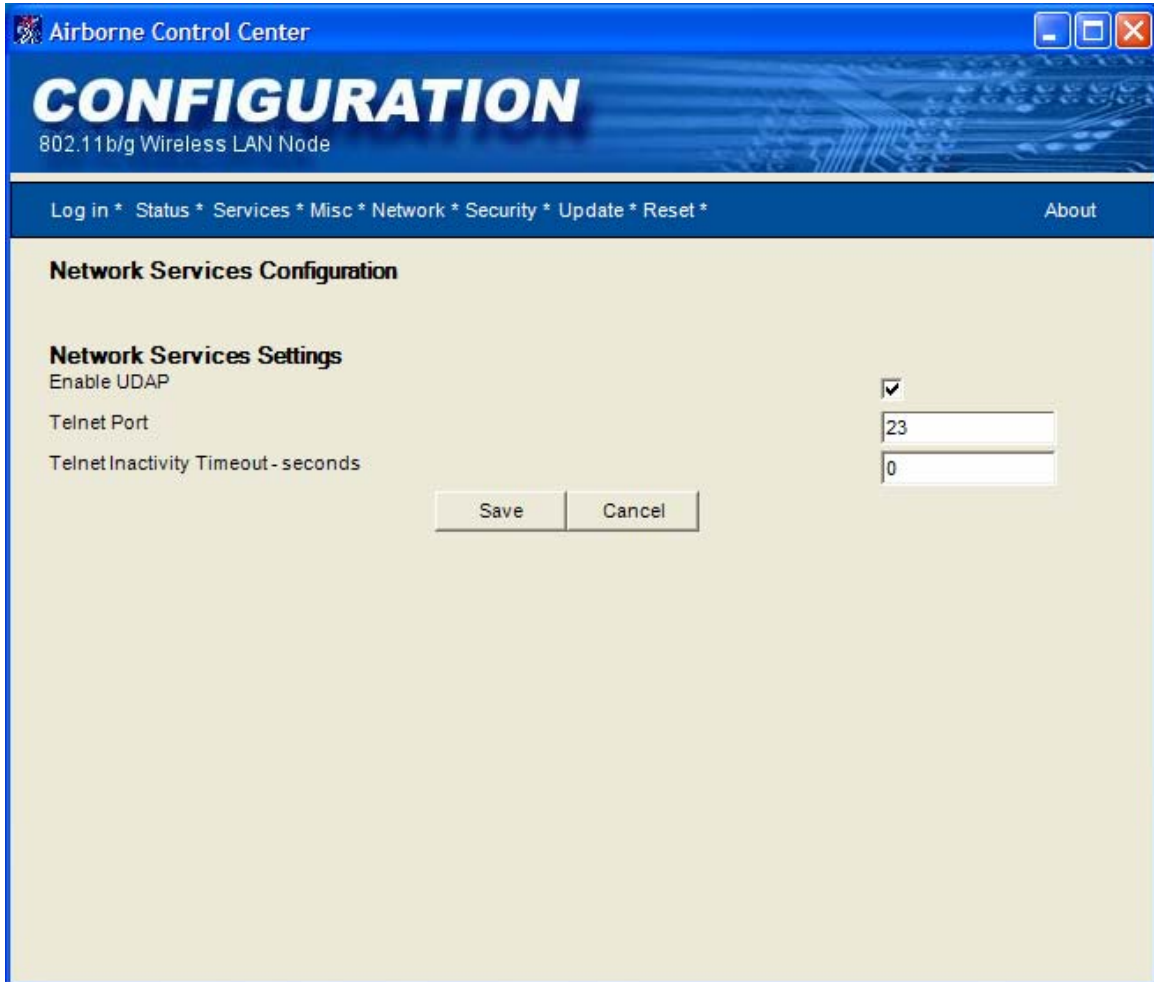

Figure 17. Network Services Page
- The message shown in Figure 17 will be displayed. Wait for the upload to complete.